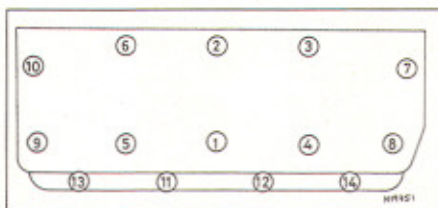

Fig. 12.4 Cylinder head bolt tightening sequence – 136 models (Sec 3)
- When removing the cylinder head bolts, loosen them off in a progressive sequence in the reverse order to that shown in Fig. 12.4
Refer to Fig. 12.4 and tighten the bolts in the sequence shown, to the Stage 1 torque wrench setting given in the Specifications at the start of this Chapter. With all the bolts to the Stage 1 setting, tighten them to the Stage 2 setting, which is a quarter of a turn each (90°), in the sequence shown.